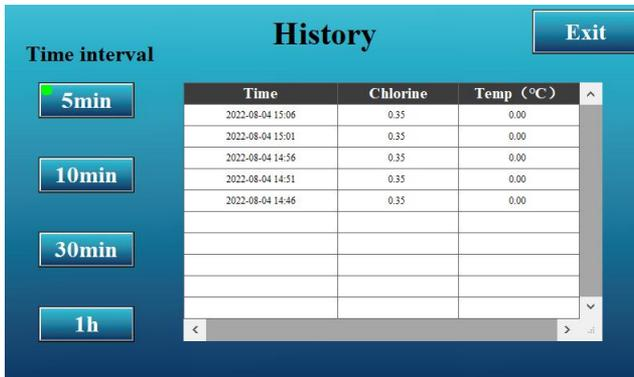

Fig.24 History interface
**History**: Click the "History" button on the Menu interface to enter the “history” interface. The default record interval is 5 minutes, and the record interval can be modified by the button on the right. As shown in Fig.24.